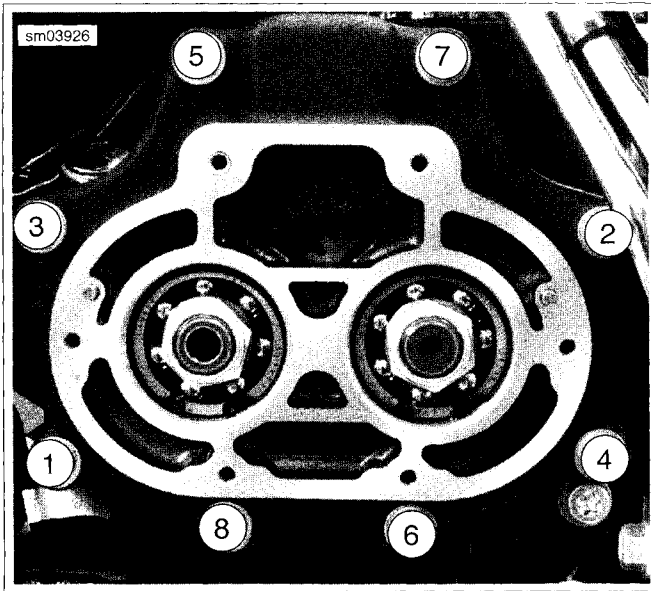

Figure 6-32. Side Door Hardware Torque Sequence
6. See Figure 6-32. Tighten all side door hardware in the sequence shown to 13-18 ft-lbs (17.6-24.4 Nm).